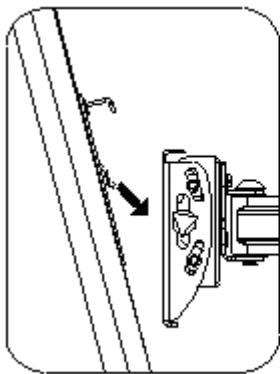
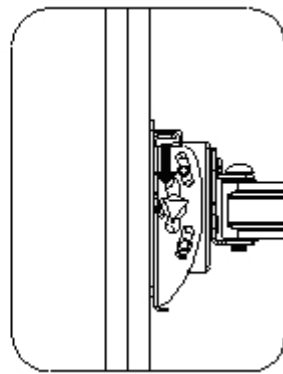
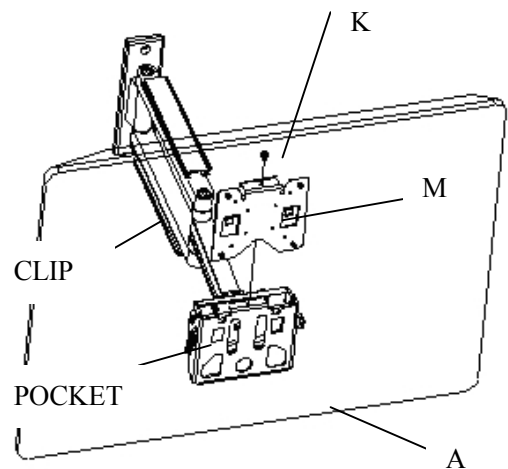

Fig3.1
Fig3.2
Fig3.3
To attach the display panel to the Wall Arm Assembly (A), lower the hook Bracket (M) with the display panel at an angle into the pockets of the Wall Arm Assembly (A) as shown in figure 3.1. Once the clips are engaged, push down to seat clips in pockets as shown in figure 3.2. Insert and tighten M5 Phillips screw (K) to lock the display panel to the wall mount as shown in figure 3.3.